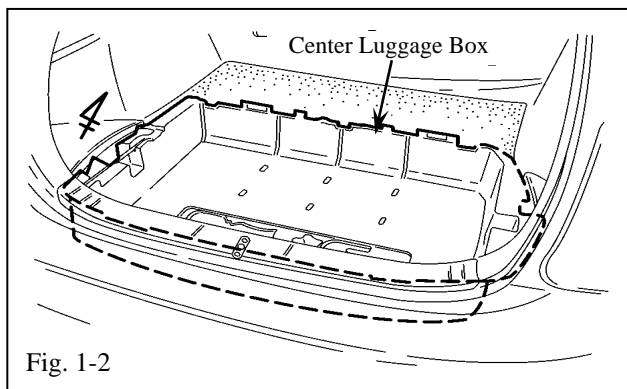

Fig. 1-2
- Remove the center luggage box (deck floor box rear). (Fig. 1-2)